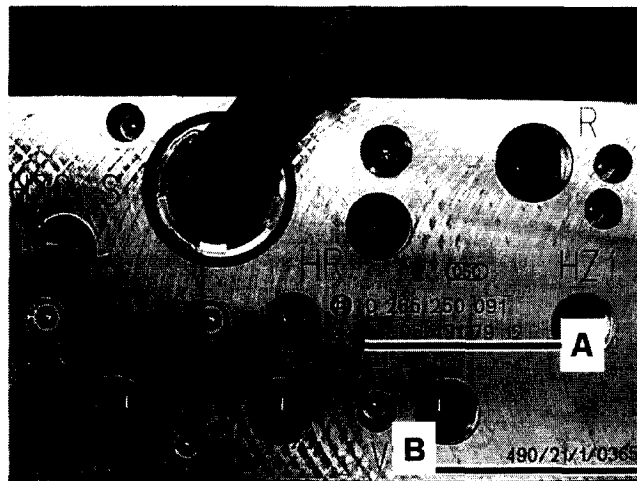

Figure 1
1. Check if SBC hydraulic unit part number (A, Figure 1) is listed in the table below:
- If the part number (A) is **not** listed, proceed to step 3.
- If the part number (A) is listed, proceed to step 2.
2. Check (refer to table below) if the production number (B, Figure 1) is within the listed production number range for the relevant part number (A):
- If the production number (B) is **not** within the production number range, proceed to step 3.
- If the production number (B) is within the production number range compared to the relevant part number; proceed to Subject B, Replacement of SBC Hydraulic unit.
When reading the production number (B, Figure 1) on the SBC hydraulic pump, disregard the slashes. The production number should be read as a whole number: